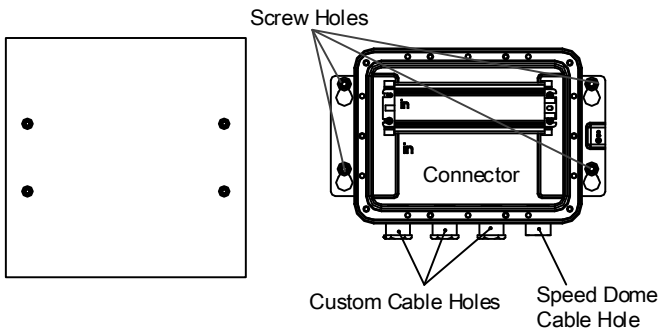

Figure 2-27 Install the Gang Box Type I
- 1) Drill 4 $\phi 9$ screw holes for expansion screws as shown in Figure 2-27.